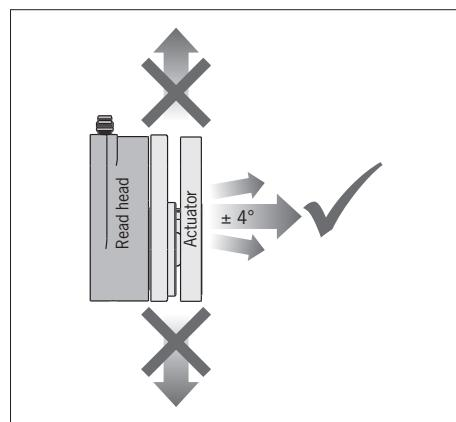

Fig. 1: Approach direction
- When the safety door is opened, the actuator must be moved away from the read head toward the front (see Fig. 1).